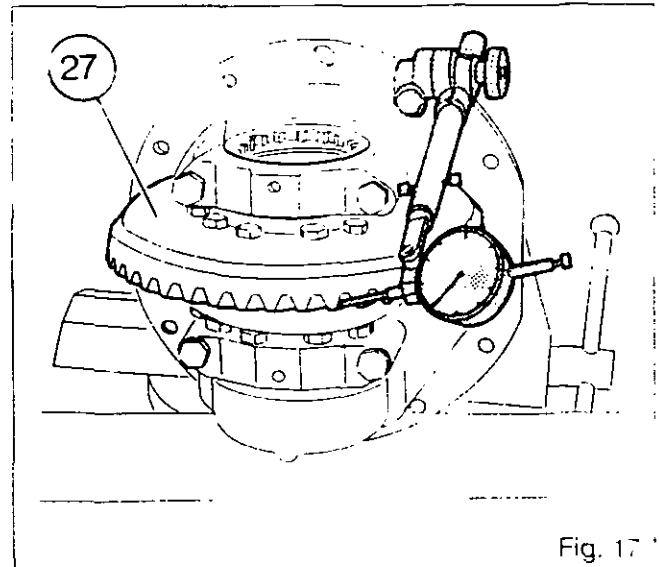

Fig. 17
80. Check the backlash between the teeth of the crownwheel and of the pinion with a dial gauge (Fig. 17). Take three readings at three equidistant points. Determine the average of the three readings. This should be within the following values :